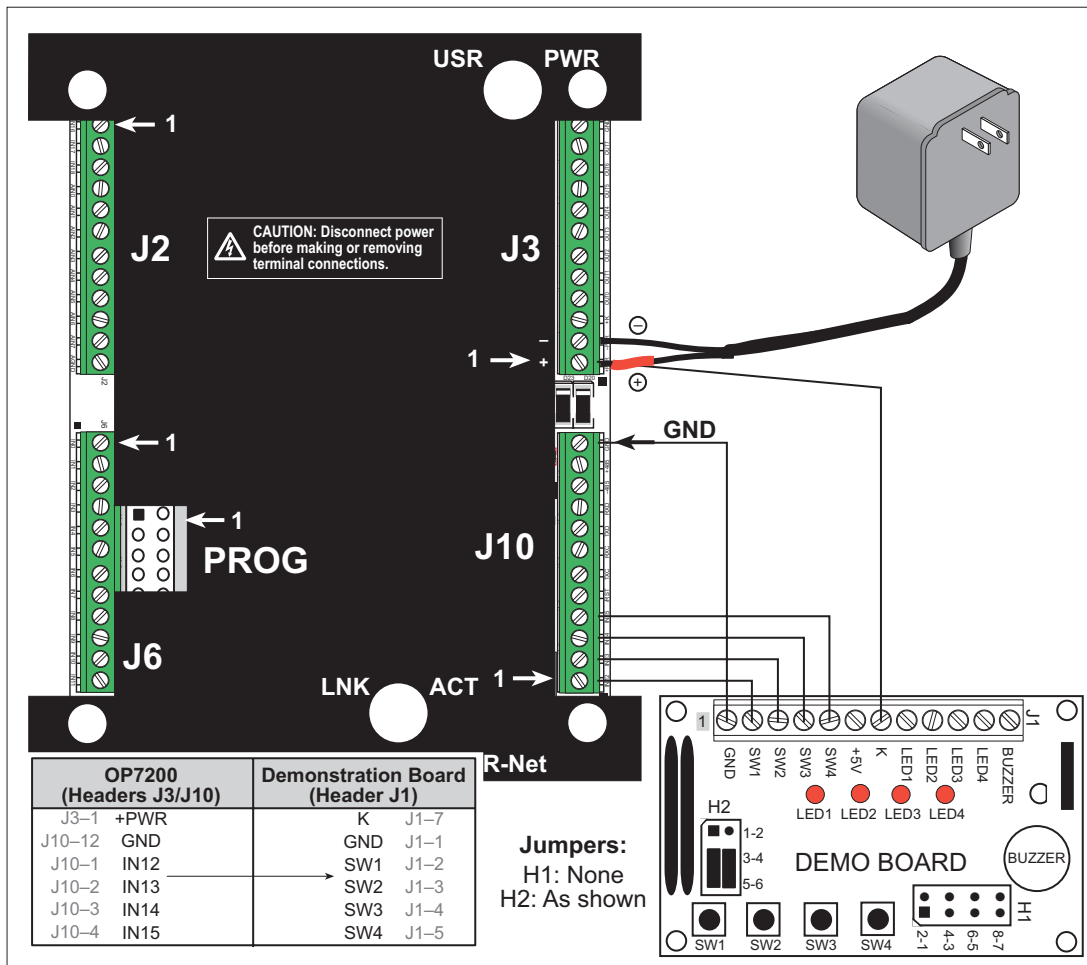
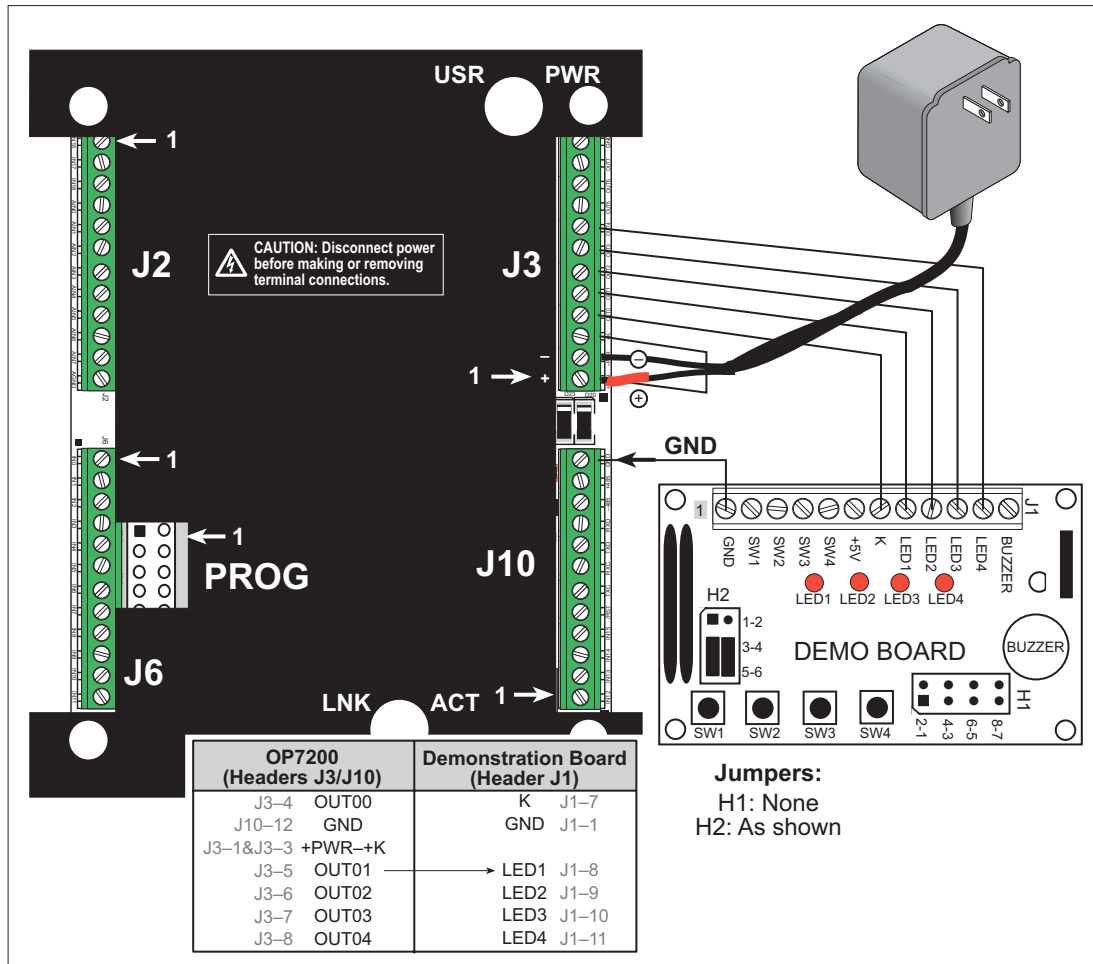
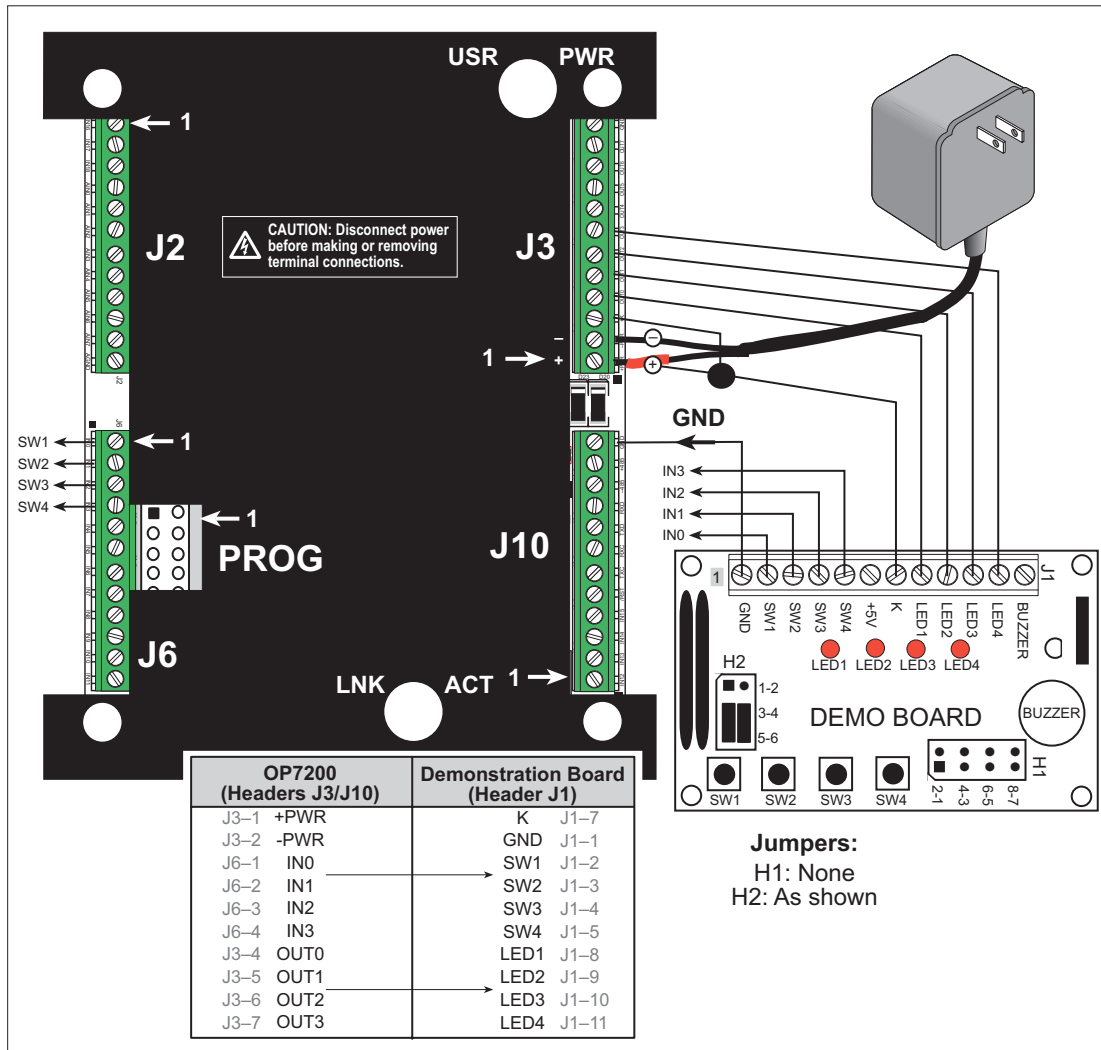

Figure C-1. Connections Between OP7200 and Demonstration Board for DIGIN.C Sample Program
Figure C-2. Connections Between OP7200 and Demonstration Board for DIGOUT . C Sample Program
Figure C-3. Connections Between OP7200 and Demonstration Board for TCP/IP Sample Programs
1. Use the wires included in the OP7200 Tool Kit to connect header J1 on the Demonstration Board to the OP7200. The connections are shown in Figure C-1 for sample program **DIGIN.C**, in Figure C-2 for sample program **DIGOUT.C**, and in Figure C-3 for the **OP7200\TCP/IP** TCP/IP sample programs.